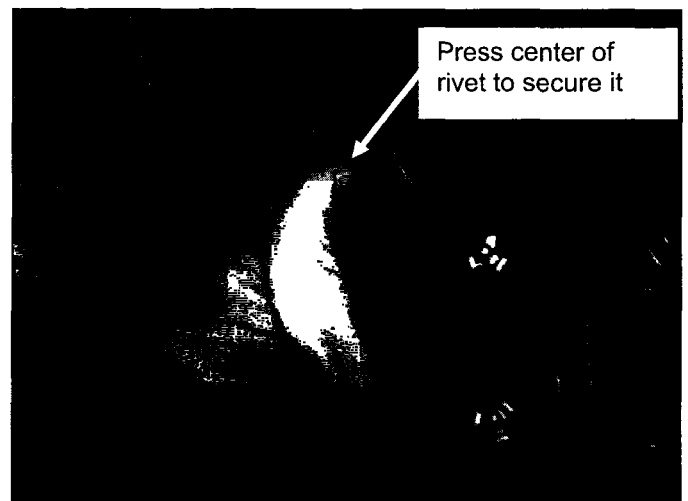

Figure 15
- Then press on the center of the rivet to secure it (see Figure 15).